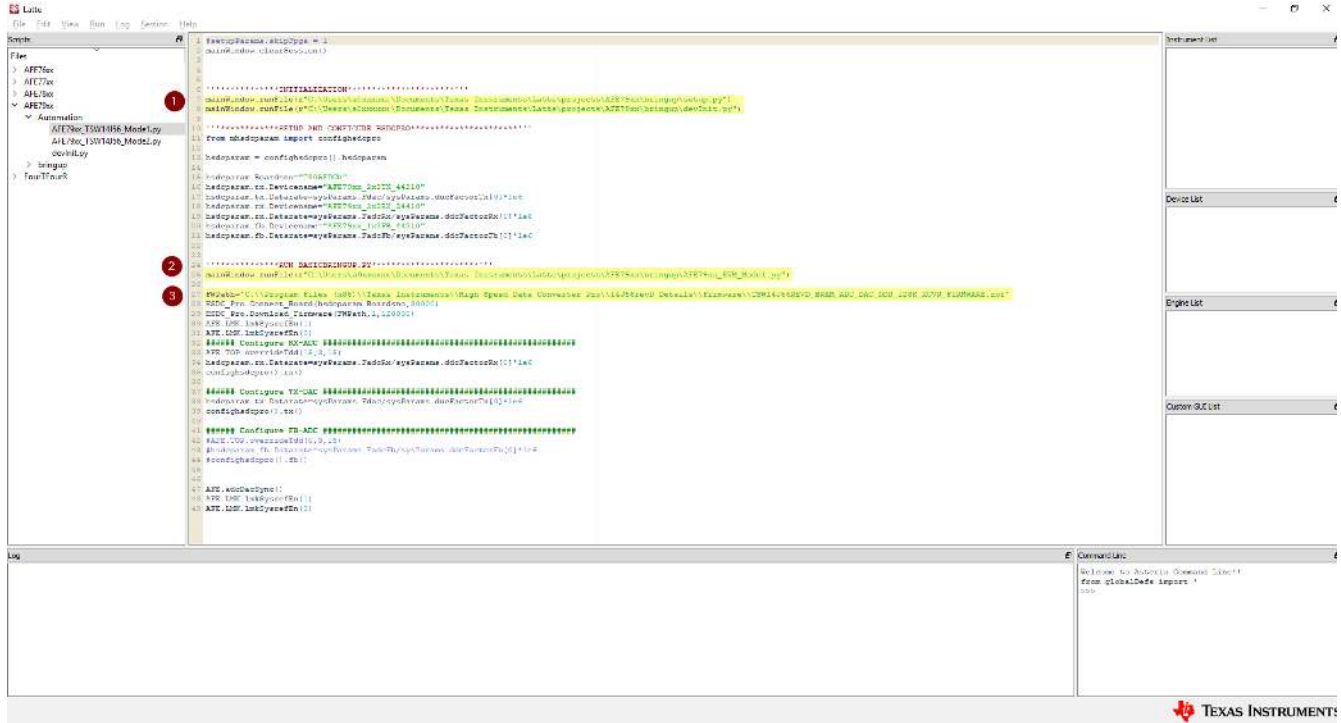

Figure 4-4. Directory Parameter to be Changed in the Automation Script
- As shown in Figure 4-4, change item #1 and #2 to reflect the location of the Latte install directory for the setup.py and devInit.py. Usually the area where a0xxxxxx must be replaced with the Windows user ID login.
- As shown in Figure 4-4, change item #3 to reflect the location of the High-Speed Data Converter Pro directory for the TSW14J56 firmware.